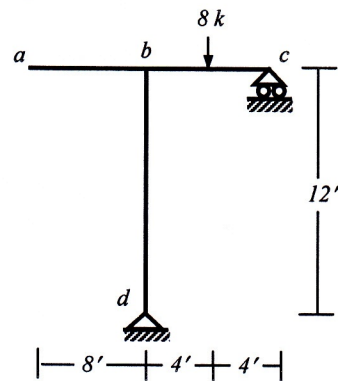

*Fig 3*
4. Calculate the vertical deflection at point  $b$  of the beam shown in *Fig.3*, using Virtual Work Method [Given:  $EI = 40,000 \text{ k-ft}^2$ ].